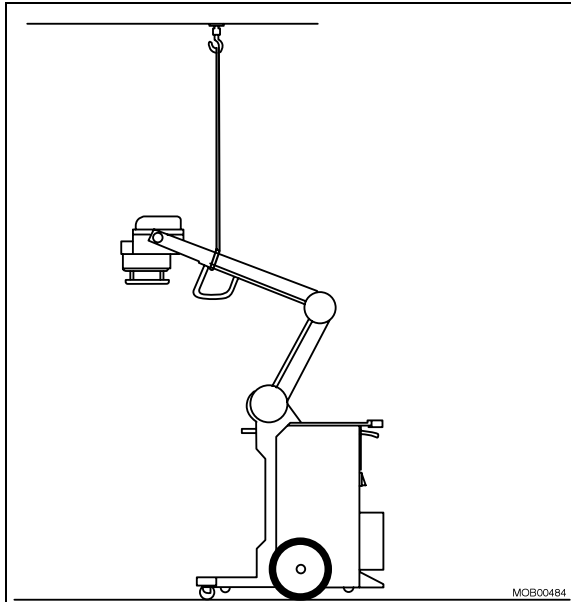

Fig. 44: Ceiling stand
- ⇒ Prior to performing an adjustment, the single tank should be secured in its top position to a ceiling beam(Fig. 44 / p. 55).